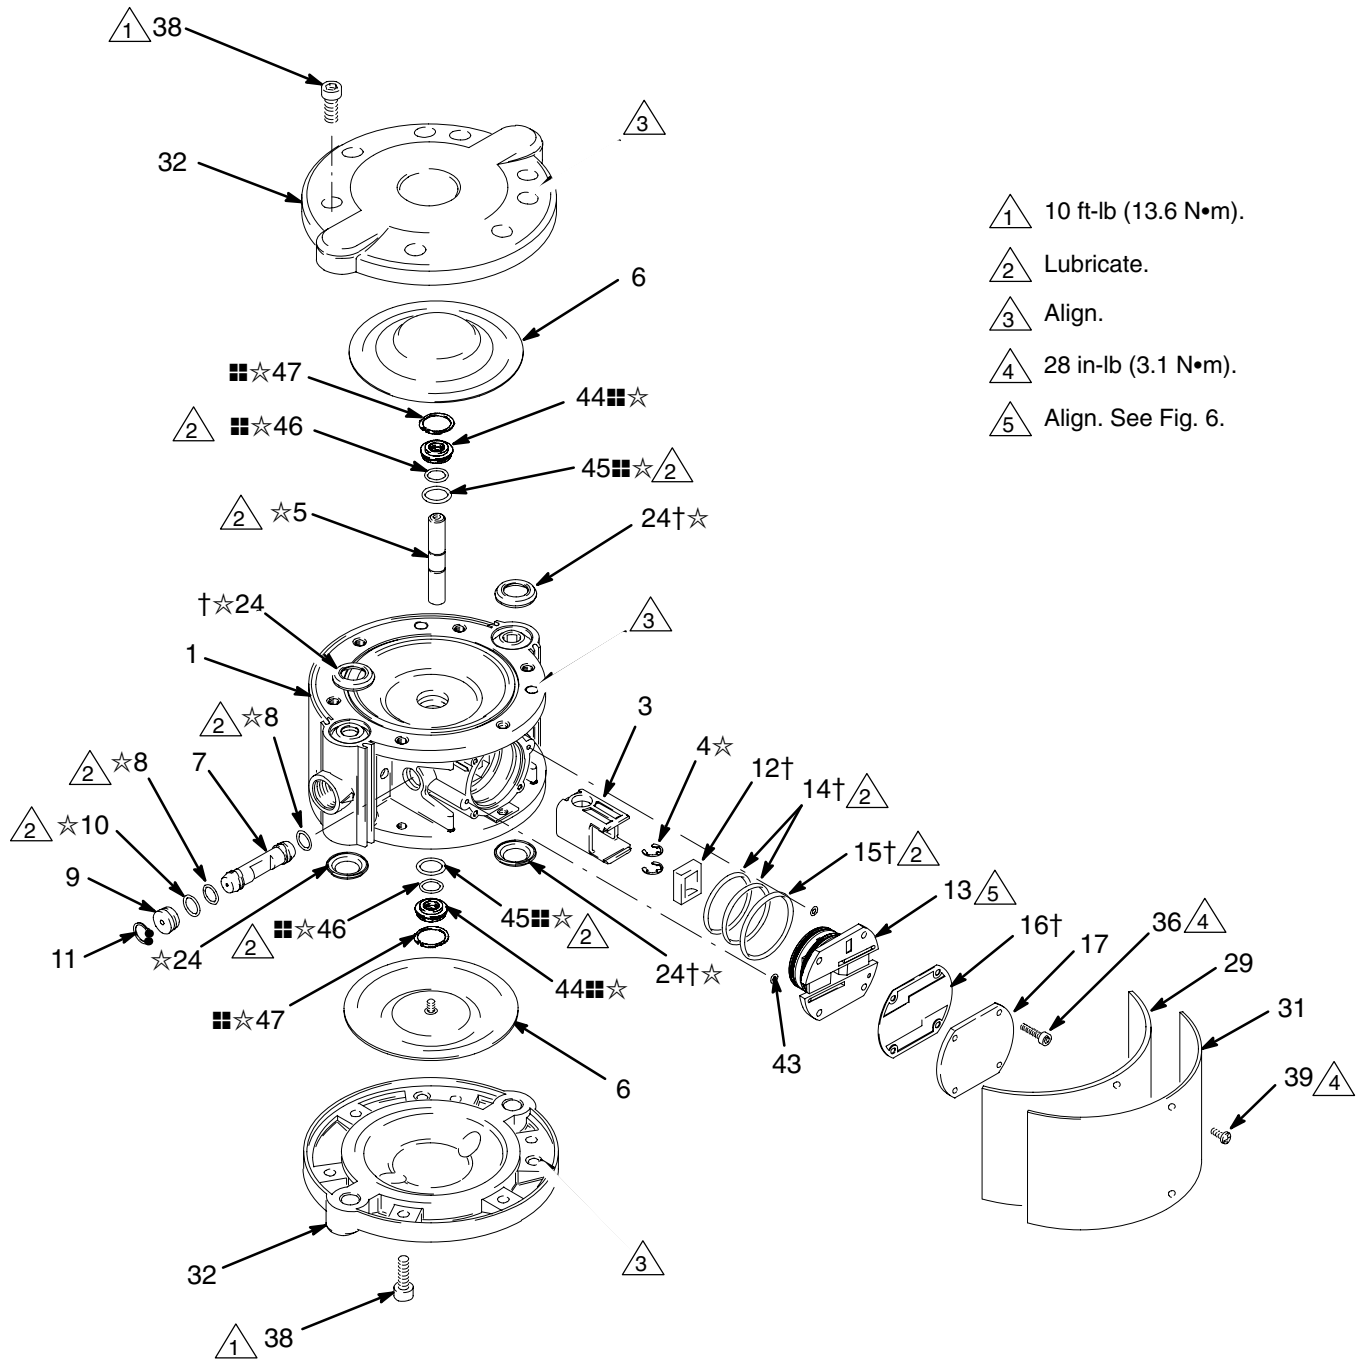

Fig. 8
1. Remove the fluid covers. See page 14. Remove the side cover (31) and felt dampener (29).
3. Remove the diaphragms (6). See page 17.
4. Remove the retaining rings (4☆) from the shaft (5). See Fig. 8.
5. Slide the shaft (5) out of the center housing (1). Remove the valve carriage (3) from the housing.
6. Remove the retaining rings (47) and bearings (44). Remove the o-rings (45, 46) from the bearings.
7. *If you could not remove one diaphragm from the shaft, place the shaft in a vise with soft jaws. Unscrew the remaining diaphragm (6) from the shaft (5) by hand.*